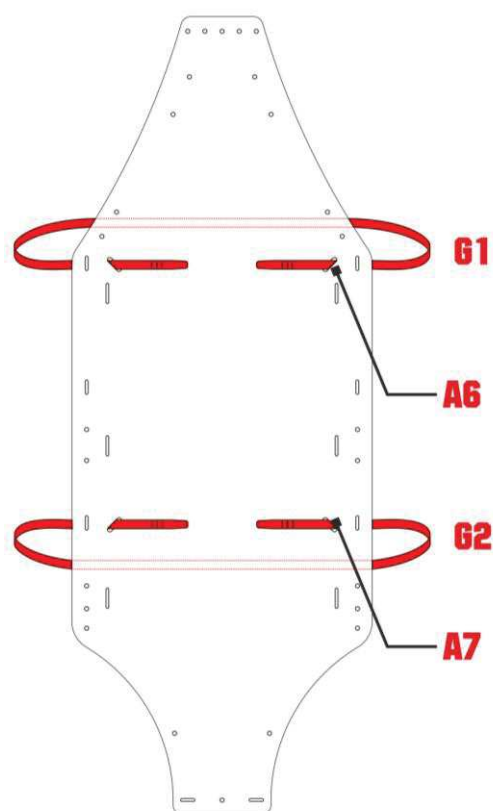

Fig. 14
- lifting and/or transport: insert the short hanging kit (G1) into the slots A6 and the long hanging kit (G2) into the slots A7 of the support surface (fig. 14),